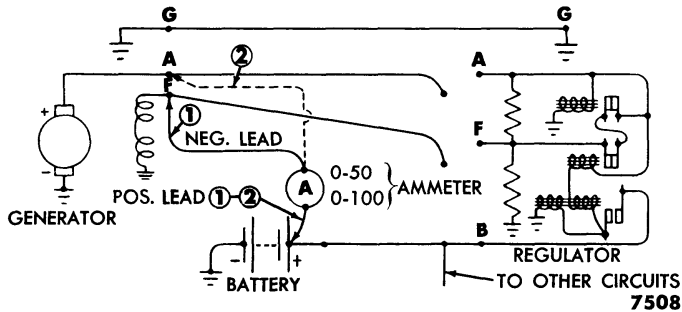

Fig. 5—Electrical Test of Generator—Diagram and Procedure
the generator on the vehicle, as illustrated in fig. 5, to determine the exact part of the generator causing trouble. If the field checks short or open, follow (1). If the armature checks short or open, follow (2). If the brushes are making poor contact, or are shorted, follow (3).